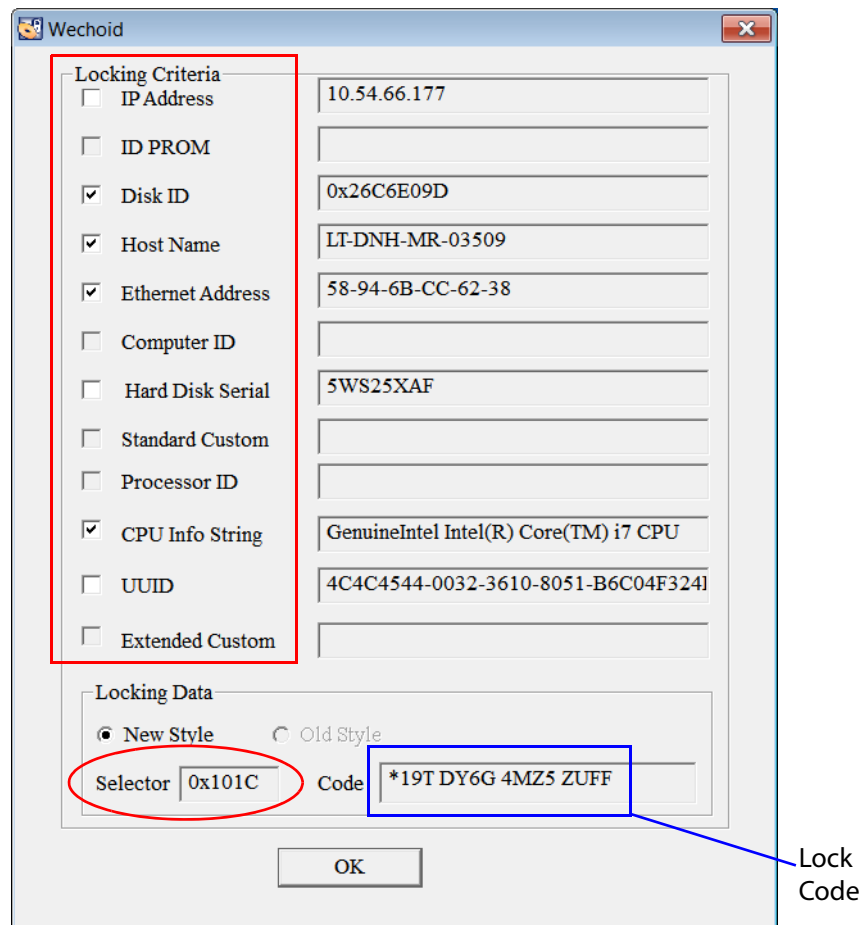

Fig. E-30: Lock Code 'Wechoid' window
A Lock Code generation window appears entitled 'Wechoid'. See Figure E-30.
3. Select and deselect the various left-hand side **Locking Criteria** check boxes so that they are the same as in Figure E-30.
4. Check that the value in the **Selector** text box is the same as that in Figure E-30.